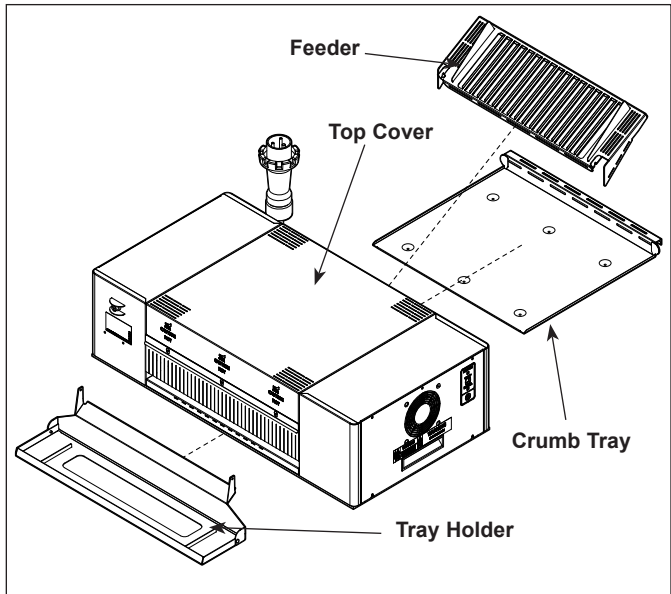

Figure 4. HRT-5H Components
2. Use the **LEFT** and **RIGHT** arrow buttons (Figure 4) to scroll through the settings, which appear in the following order:
3. To change a setting, press the **OK** button and then use the **LEFT** and **RIGHT** arrow buttons to adjust as needed. Press the **OK** button again to save the changes. See Figure 4.
2. Put on neoprene gloves. Remove the Bun Feeder, Crumb Tray, and Tray Holder, and Tray (Figure 4).